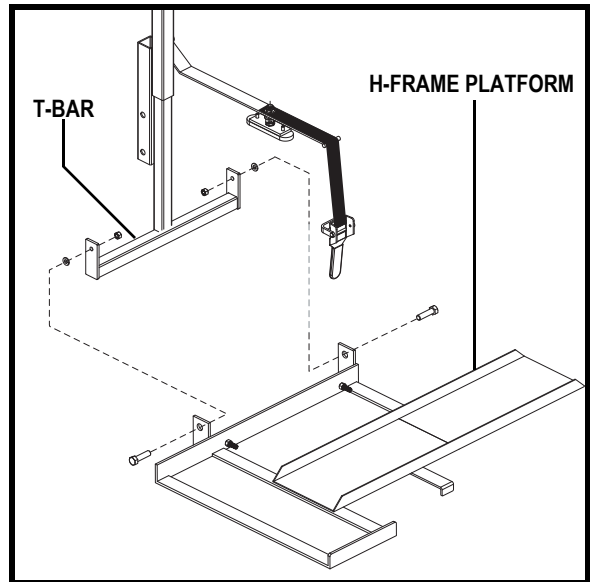

Figure 3. H-frame Platform Assembly
6. Position the H-frame platform so that the mounting tabs on the platform are aligned with the mounting tabs on the T-bar. See figure 3.
7. Attach the H-frame platform to the T-bar using the supplied hardware. See figure 3.